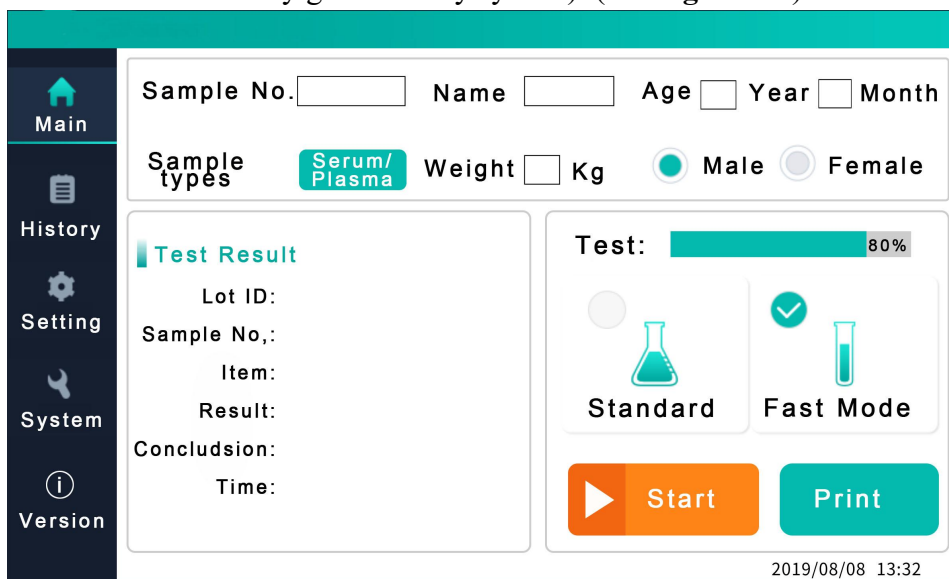

Figure 5.5
2.2 Input basic patient medical information, including sample number and sample type and etc. (The serial number will be automatically generated by system). (see **Figure 5.5**)